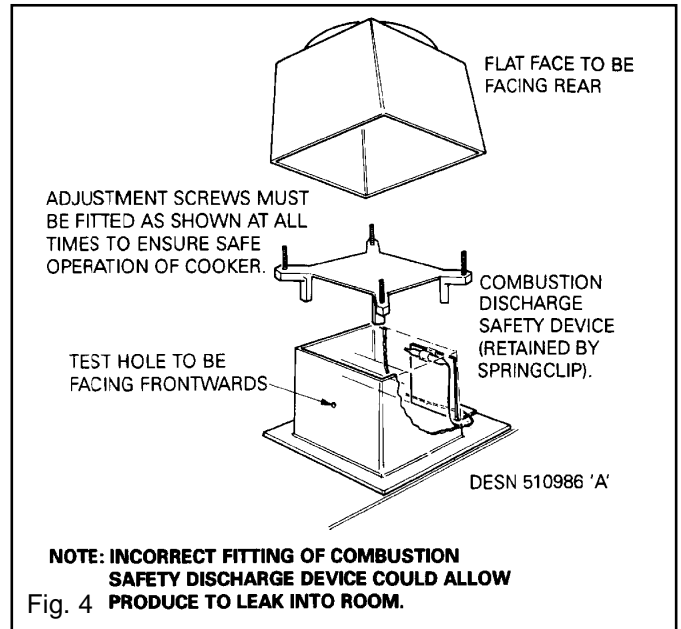

Fig. 4
See Fig. 4.
2. Assemble and locate the flue draught diverter assembly on the top plate. See Fig. 4.